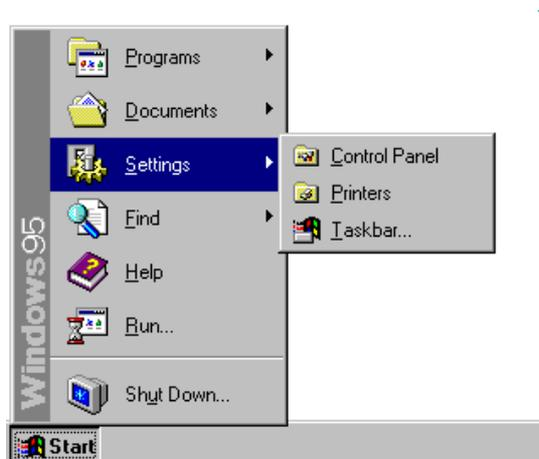
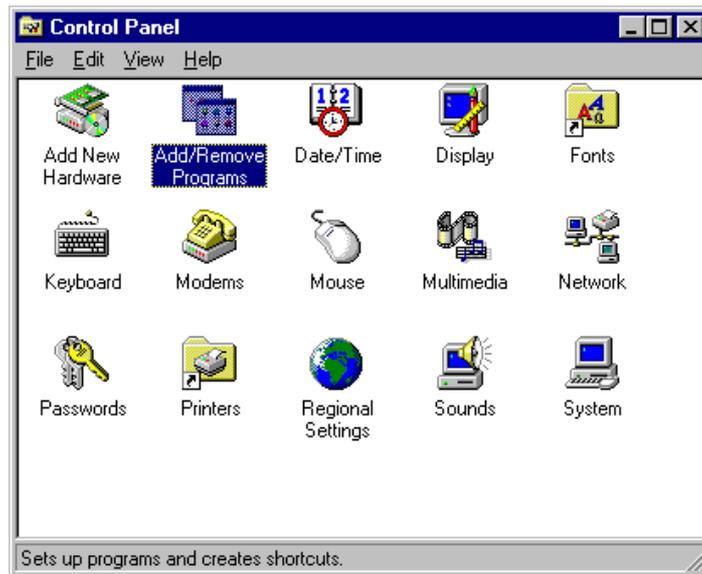

Fig. 9.1 Windows 95
Fig. 9.2 [Control Panel]
- (1) Click [Settings] - [Control Panel] on the [Start] menu as shown in Fig. 9.1. Fig. 9.2 shows the [Control Panel] window.
- (1) Execute [Instruments] - [Port Setting] on the [Spectra Manager] menu. The dialog box shown in Fig. 9.1 appears.